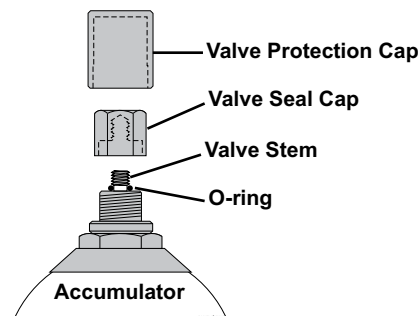

Figure 36
17. Replace the gas valve seal cap (tighten to 22 ft/lb), and hand-tighten the valve protection cap (Figure 36).